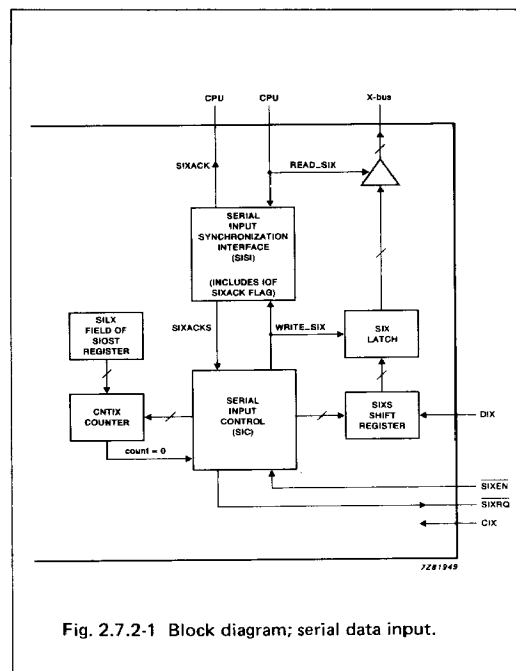

Fig. 2.7.2-1 Block diagram; serial data input.
The X and Y serial data inputs are identical, therefore, only the serial input-X is described in the following paragraphs. Figures 2.7.2-1 and 2.7.2-2 are used to simplify the explanation of the serial data input procedure.
- the serial data input control procedure (Fig. 2.7.2-2)
Note to Fig. 2.7.2-2